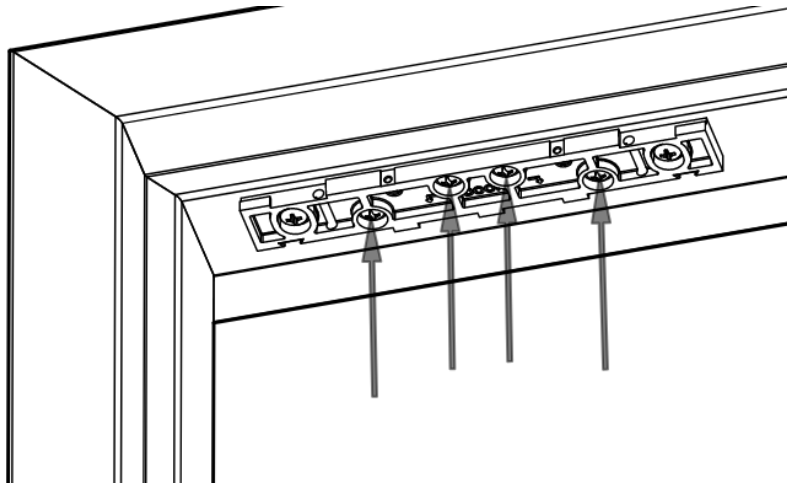

Figure 28. Installing Final Mounting Screws
6. Drill pilot holes as necessary then install and TIGHTEN the four (4) final mounting screws (see Figure 28, "Installing Final Mounting Screws"). For METAL DOORS drill  $3/16$ " and use #12 x 1-1/2" Screws. For WOOD DOORS drill  $7/32$ " and use #14 x 3" screws.